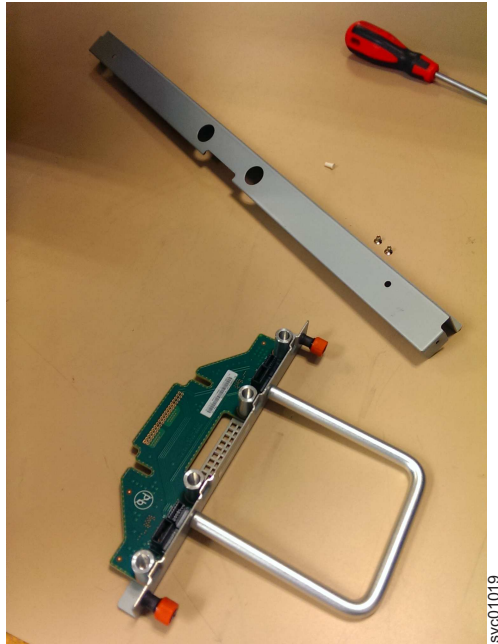

Figure 124. FIB parts removed from the chassis
4. Place the FIB (shown in Figure 124) in a safe location.